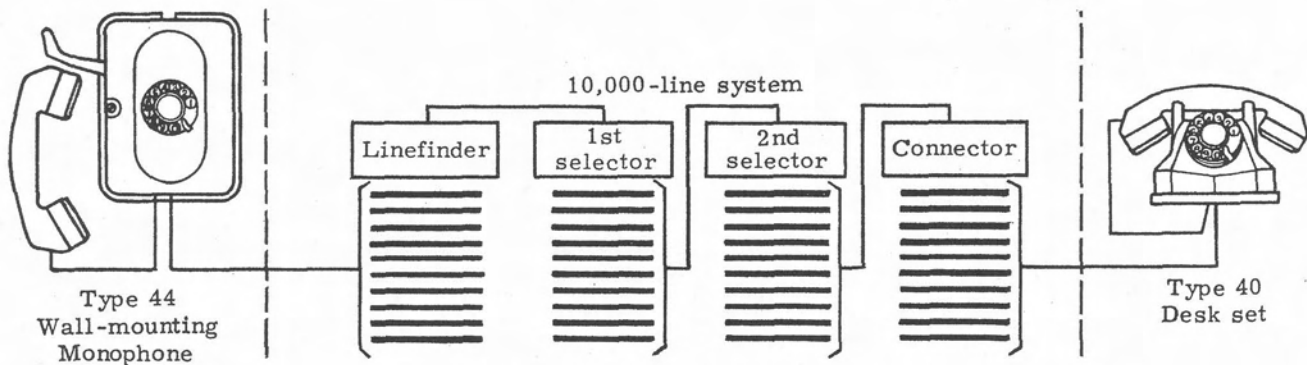

Fig. 64. 10,000-line system.
47. TEN-THOUSAND-LINE SYSTEM (FIG. 64)
The ten-thousand-line system shown in Fig. 64 is made up of ten groups, each having one thousand lines. It requires "first selectors" to select any one of the thousand-line groups. In each thousand-line group, "second selectors" select the desired hundred-line group in that thousand. It differs from the thousand-line system only in the addition of a second group or rank of selectors to choose the desired thousand group.